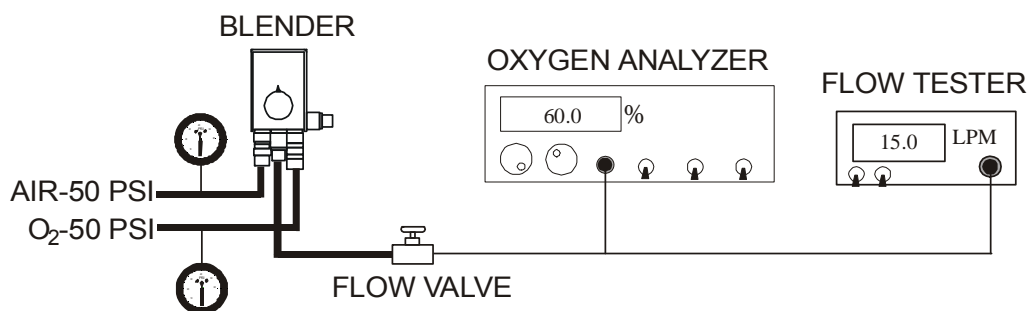

Figure 18
- 6.2.2. Connect the primary blender output to a flow valve capable of >50 lpm, a flow measurement device, and an oxygen analyzer per the manufacturer's instructions. Refer to Figure 18.
- 7.2. Set up as in Figure 18. Set the blender to 60%.
- 7.11. If there is a knob on the side of the blender, leave the set up as in Figure 18. Set the knob to the “less than (<)” indication, adjust the flow to 2.0 lpm and repeat 7.3 – 7.8 using this lower flow.